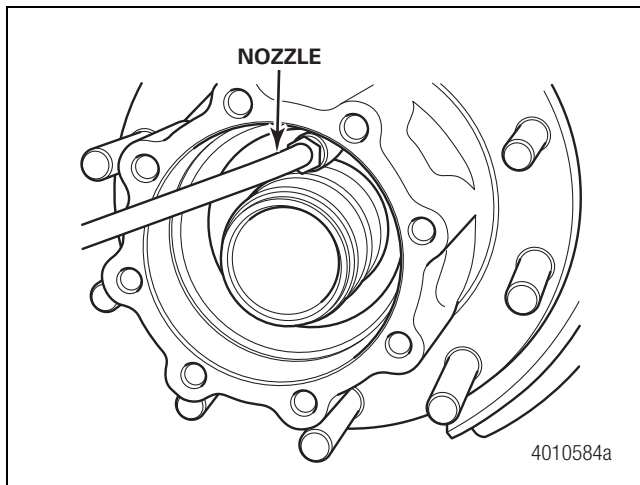

Figure 2.32
4. Insert a filling nozzle into the hub cavity and fill with approximately 6-9 oz. (177-266 ml) of axle lubricant. Figure 2.32.